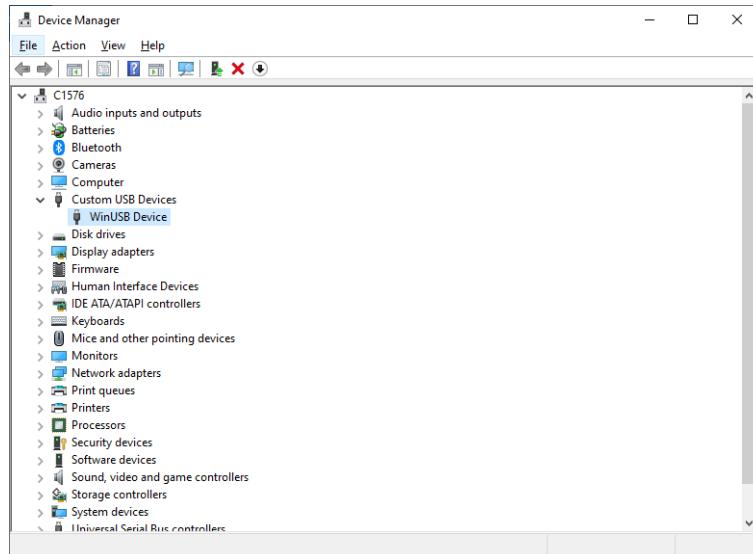

Fig. 11.13: USB device correctly recognized.
7. The device is recognized by the operating system and listed in the "Device Manager" window among "Custom USB Devices" (see **Fig. 11.13**).